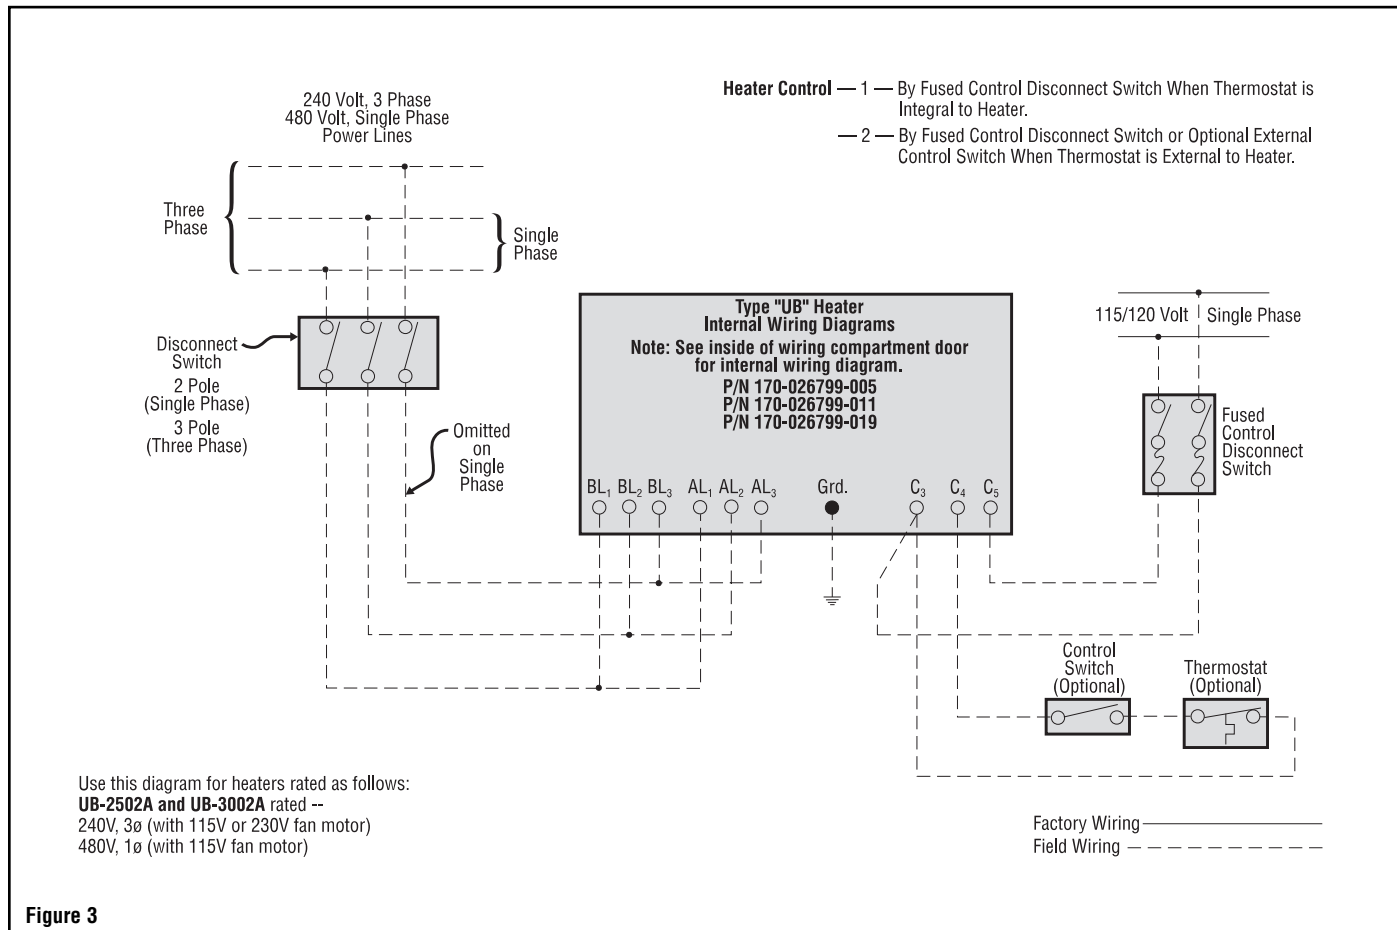

Figure 3
1. Connect heater according to the voltage and frequency specified on the nameplate and using the appropriate wiring diagram (Figures 3 thru 11).
3. Heaters are not provided with a control switch and should be controlled by externally mounted disconnect switches and/or separately mounted thermostat and control switch as recommended in appropriate wiring diagrams (Figures 3 thru 11). Key to proper wiring diagram is the part number (P/N) of internal wiring diagram located on inside of the hinged cover of the terminal box.